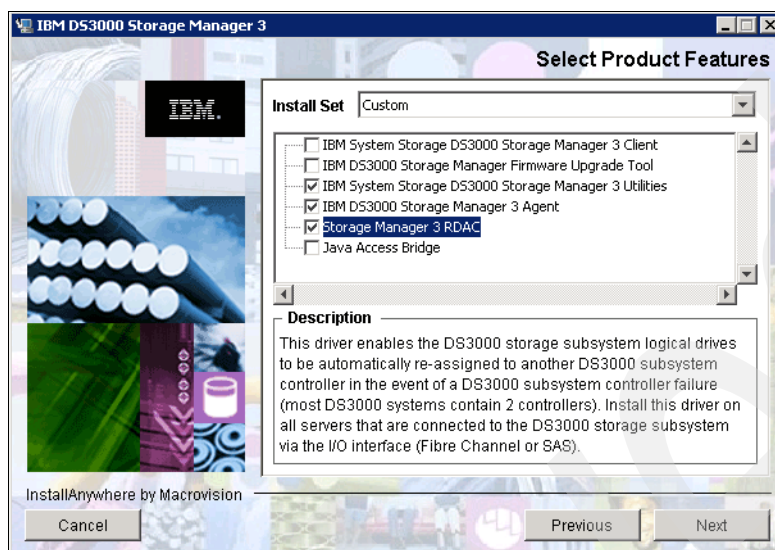

Figure 25-9 Install MPIO/RDAC driver
2. You will be asked to decide which modules to install for the Custom installation. Do not forget to select the MPIO/RDAC drivers (in Figure 25-9). Click **Next** and then **Install**.